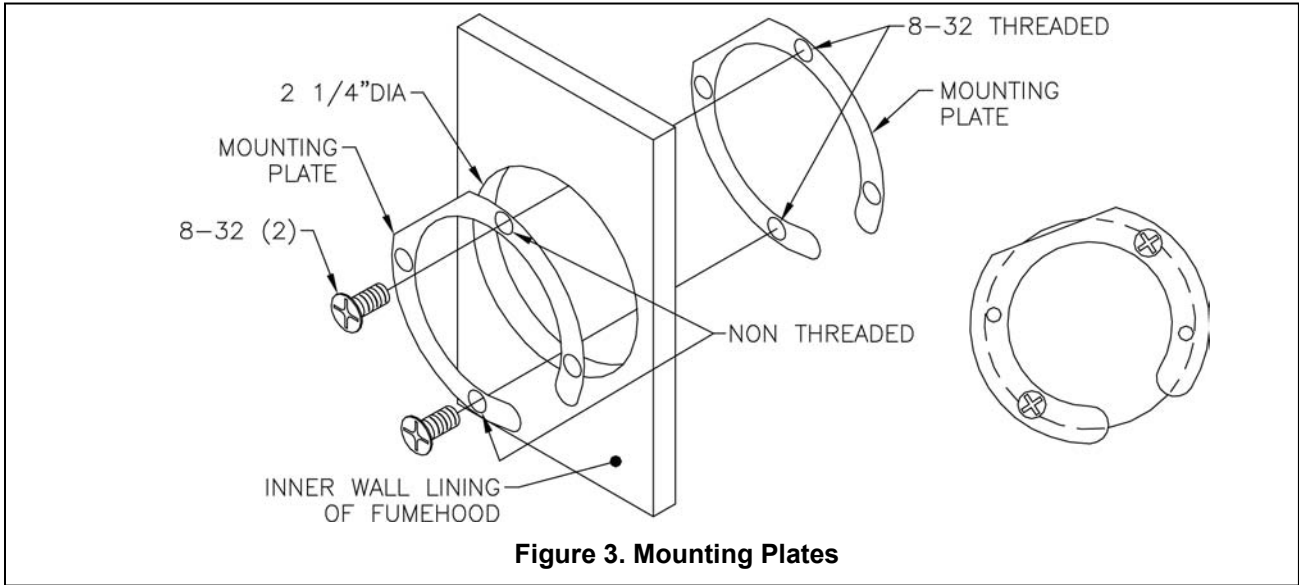

Figure 3. Mounting Plates
- Install MOUNTING PLATES to fume hood liner wall using 2 of the 8-32 × 5/8 inch screws provided. The MOUNTING PLATES must be configured as shown in Figure 3.